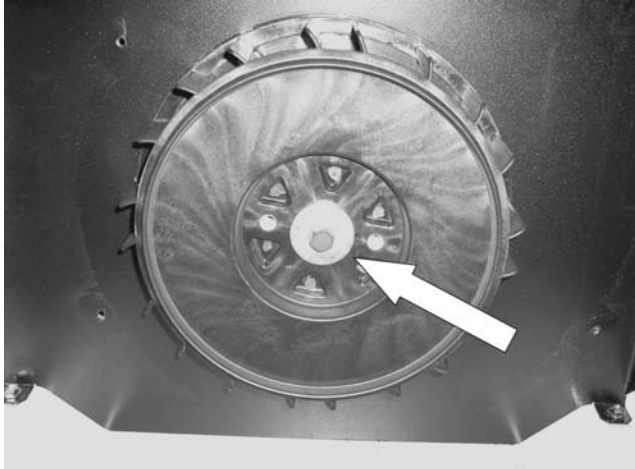

Figure 31.
8. Remove Rotor Bolt: Using a 9/16" socket, remove rotor bolt. Figure 31.